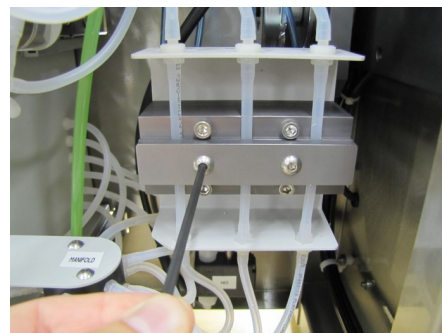

Figure 18
15. Reinstall the Enzyme Pinch Bar with the two screws using a 1/8" Allen wrench, as depicted in Figure 18. The Enzyme Pinch Valves can now be closed using the Diagnostics/Valve Test screen discussed in steps 11 and 12. You do not need to close the valves if you have a TDF55. The Pinch Valve tubing replacement is now complete and your TDF Instrument can now be put back into service.